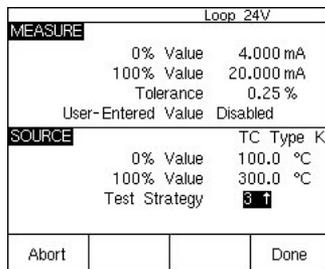

Figure 6
7. At this point depress "As Found" and fill in the template as follows (Figure 6). (On a 741 or 743, select "Instrument" and press "ENTER," then fill in the template. In place of "User-Entered Value= Disabled," use the default "Delay=0 seconds.")